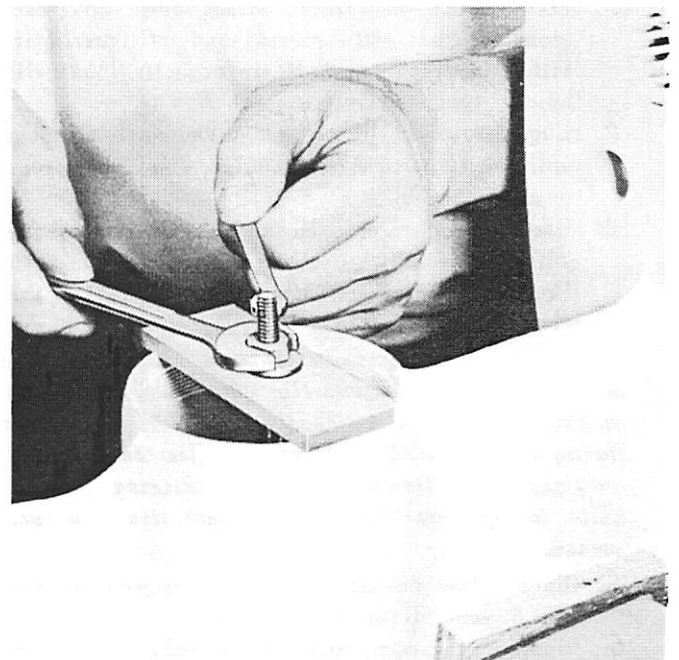

Figure 10. Removing Propeller Shaft Roller Bearing
7. Tighten nut to remove bearing. (Figure 10)